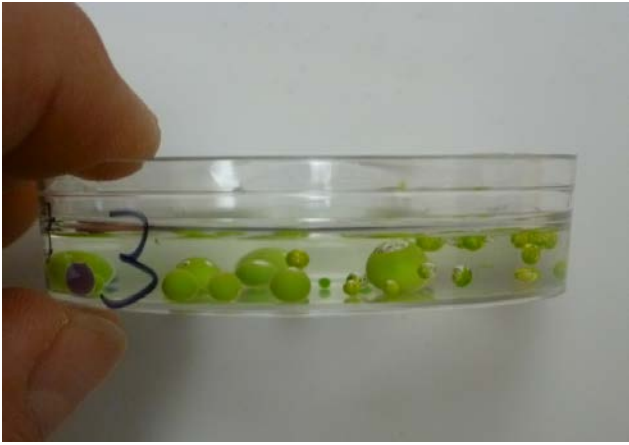

Fig.1: Injected glue tends to stay where it is injected
4. Gently insert the syringe needle into the PDMS and inject a small amount of glue. Injected glue tends to stay where it is injected (Fig. 1).